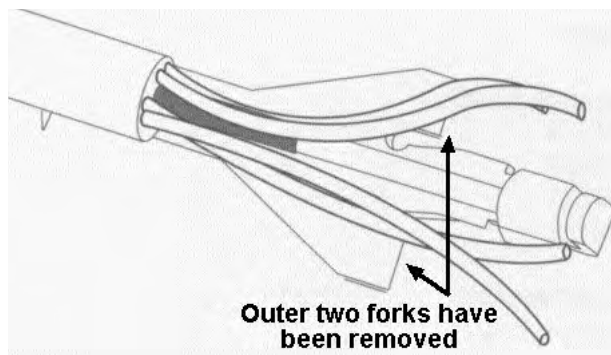

Fig 4
**Note:** The unused fork section(s) of the SMB can either be bent back or cut off to eliminate interference with fiber tubes (Fig. 4).